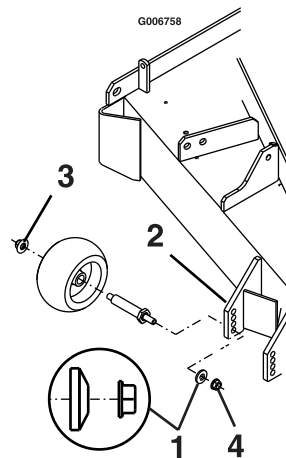

Figure 19
For LZAS-LP Units: Be sure the whizlock nuts are installed with the spring disc washer between the head of the nut and the mounting bracket (Figure 19).
- Torque the 3/8–16 whizlock nut to 30-35 ft-lb (41-47 N-m) (Figure 19).